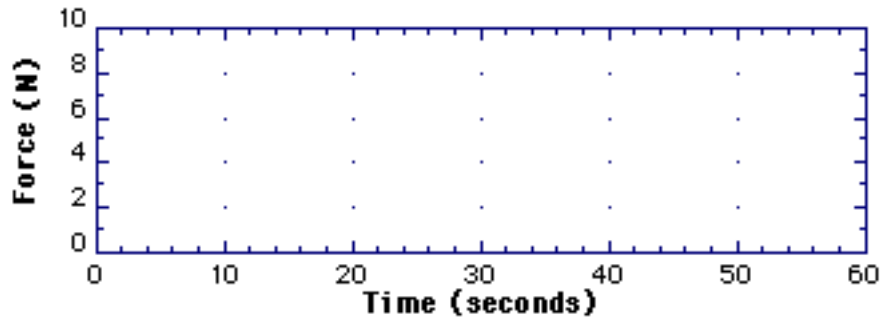

Figure 3. Force Score graph format for Activity 1
5. Prepare to measure the weights of different hanging masses. Rescale the y-axis of your graph from **0** to **10 N** by double-clicking on the graph, then changing the y-axis limits. The resulting graph should look like that shown in Figure 3.